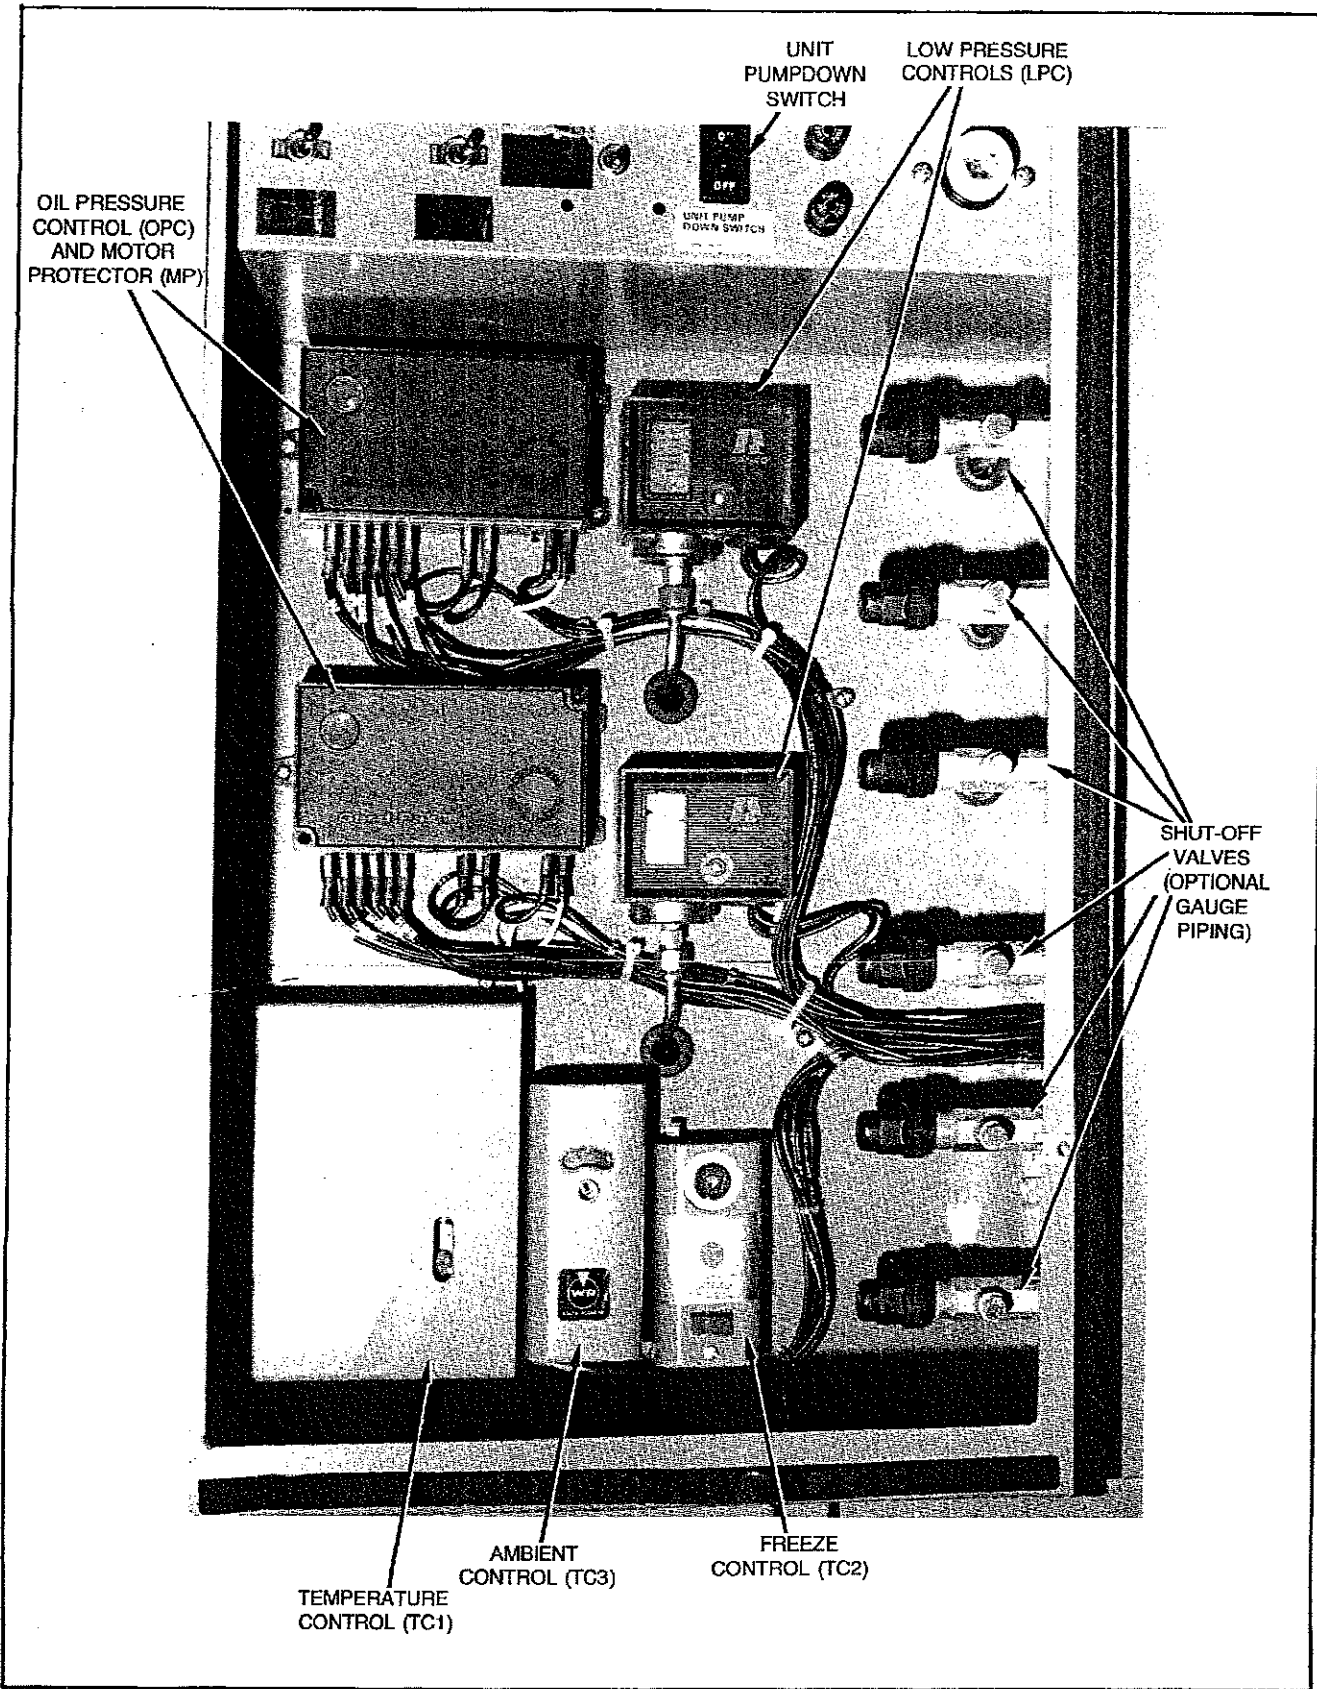

FIGURE 29 - Typical Control Panel (Dual Compressor Unit Shown)
A typical control panel is illustrated in Figure 29. Set all adjustable controls to their required settings, as given in Table 16, or the instructions below. Design temperatures can be determined from the original sales order and must be known for the setting of controls. Refer to "Control Checks" in the TROUBLE ANALYSIS section of this manual for control checkout procedures.
1. Remove caps from the angle valves at the end of each line. See Figure 29.